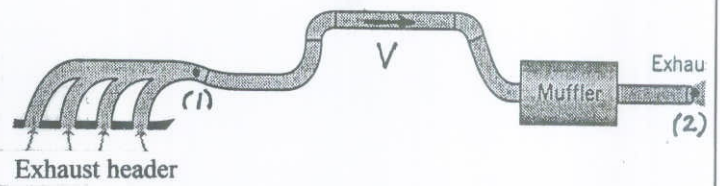

FIGURE P8.79
8.79 The exhaust from your car's engine flows through a complex pipe system as shown in Fig. P8.79 and Video V8.5. Assume that the pressure drop through this system is  $\Delta p_1$  when the engine is idling at 1000 rpm at a stop sign. Estimate the pressure drop (in terms of  $\Delta p_1$ ) with the engine at 3000 rpm when you are driving on the highway. List all the assumptions that you made to arrive at your answer.